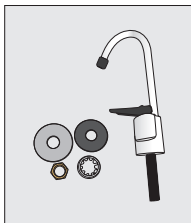
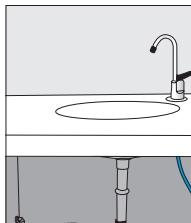

Figure 1
Figure 2
1. The faucet assembly (Figure 1) (sold separately) should be appropriately and securely installed in the sink (Figure 2).